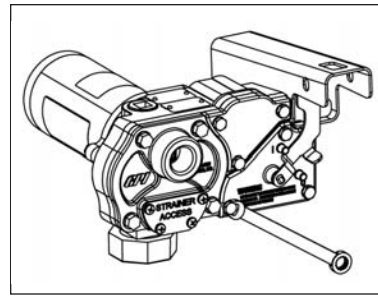

Figure 12
- Remove the switch coverplate from the pump housing. (Figure 12)